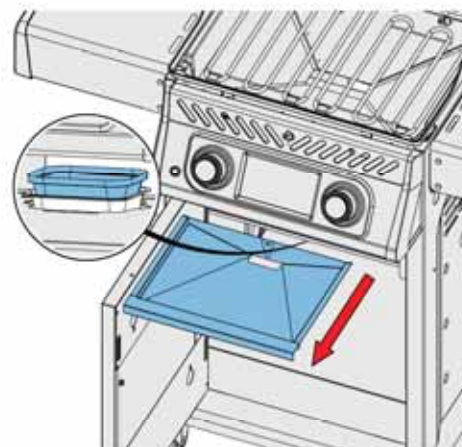

Fig. 8
1. Slide the drip pan from the appliance to access the disposable grease tray or to clean the drip pan. (Fig. 8)
- Clean frequently to avoid grease build-up – approximately every 4-5 uses. (Fig. 8)